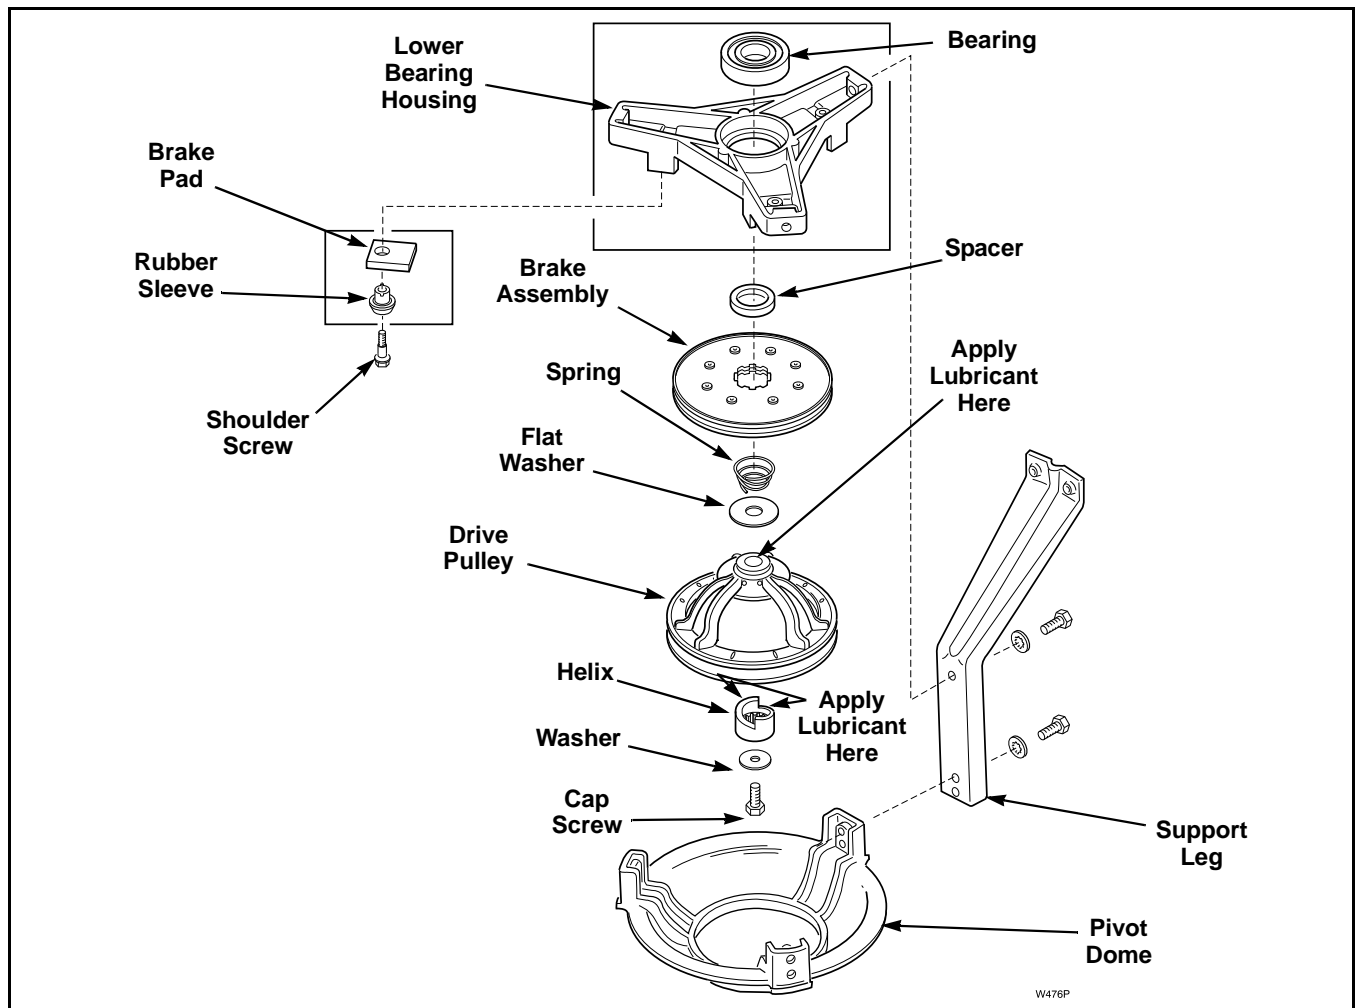

Figure 46
**IMPORTANT:** Large flat washer must be in place between the spring and drive pulley when reassembling. Refer to *Figure 46* for assembly sequence.
**NOTE:** When reinstalling pulley, place a small amount of No. 03637P Lubricant to the top side of the drive pulley that will be contacting large flat washer. Lubricate helix ramps. Refer to *Figure 46*.
- b. Using a right angle needle nose pliers, remove spring from around lower transmission tube (located inside the brake assembly). Refer to *Figure 46*.
- c. Remove three screws holding brake pads, rubber sleeves and brake assembly to lower bearing housing, then remove brake assembly, pads and spacer off bottom of transmission assembly. Refer to *Figure 46*.
**NOTE:** Refer to *Figure 46* for assembly sequence.
- r. Remove three screws and rubber sleeves holding brake pads to lower bearing housing. Refer to *Figure 46*.
- t. Remove three screws holding lower bearing housing to tub support legs. Refer to *Figure 46*.